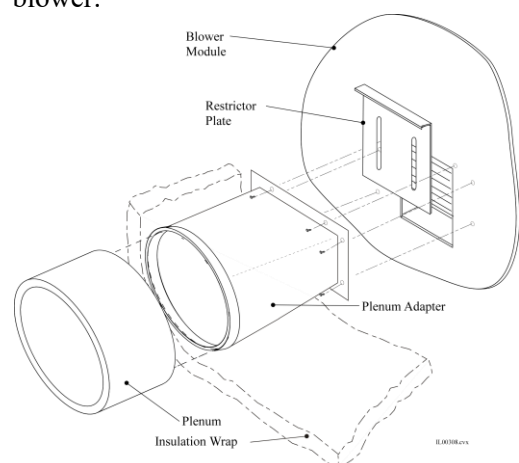

Figure 17. Supply Plenum Adapter Installation
To attach the plenum adapter, first install the restrictor plate (for ST only). Then install the adapter with eight (8) sheet metal screws as shown in Fig. 17. Sheet metal screws for installing both are provided with the blower.